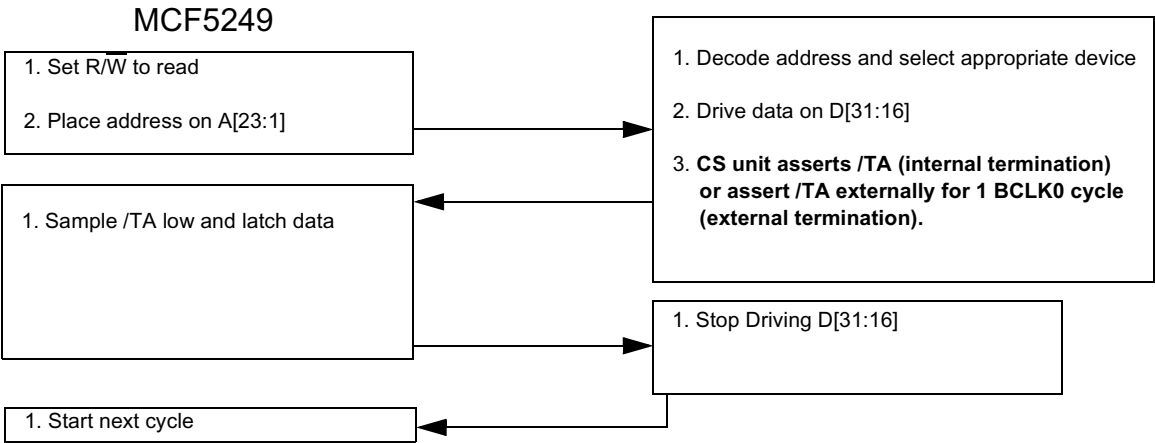
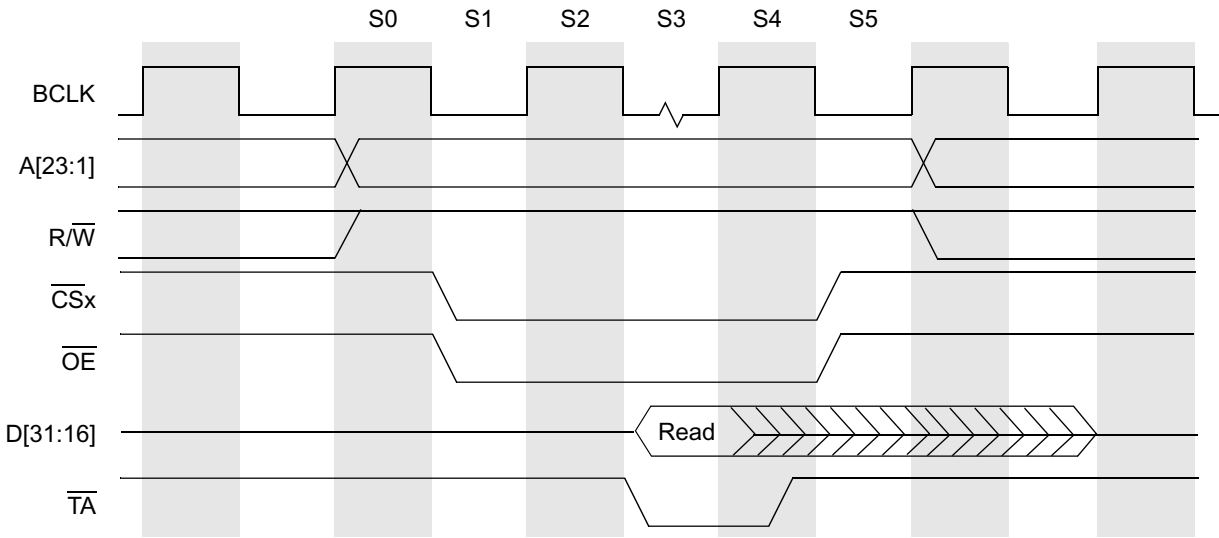
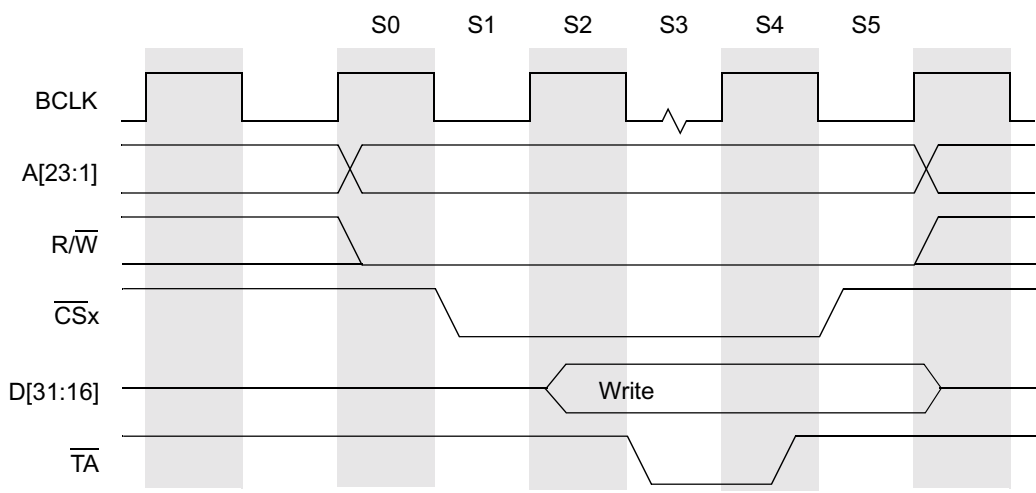

Figure 8-3 Read Cycle Flowchart
Figure 8-4 Basic Read Bus Cycle
Figure 8-6 Basic Write Bus Cycle
Figure 8-4 shows the type of access as a function of match in various memory space programming registers.
registers. If “0000” is programmed in the WS field of the relevant chip select register, a no wait cycle results. If *n* is programmed in the WS field, *n* wait cycles will result. The last clock of the bus cycle uses what would be an idle clock between cycles to provide hold time for address and write data. Figure 8-4 and Figure 8-6 show the basic read and write operations.
The Read cycle as shown in Figure 8-4, will occur if the wait cycle field (WS) in the Chip Select Control Register (CSR) is programmed to value “0000”. The CS low time is increased with *n* clocks if *n* is programmed into the WS field.
During a read cycle, the MCF5249 receives data from memory or from a peripheral device. The read cycle flowchart is shown in Figure 8-3 while the read cycle timing diagram is shown in Figure 8-4.
The Write cycle as shown in Figure 8-6, will occur if the wait cycle field (WS) in the Chip Select Control Register (CSR) is programmed to value “0000”. The CS low time is increased with *n* clocks if *n* is programmed into the WS field.
The write cycle flowchart is shown in the following figure, while the write cycle timing diagram is shown in Figure 8-6.